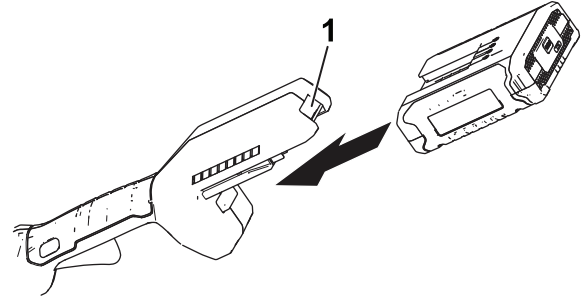

Figure 6
4. Slide the battery pack into the tool until the battery locks into the latch (Figure 6).